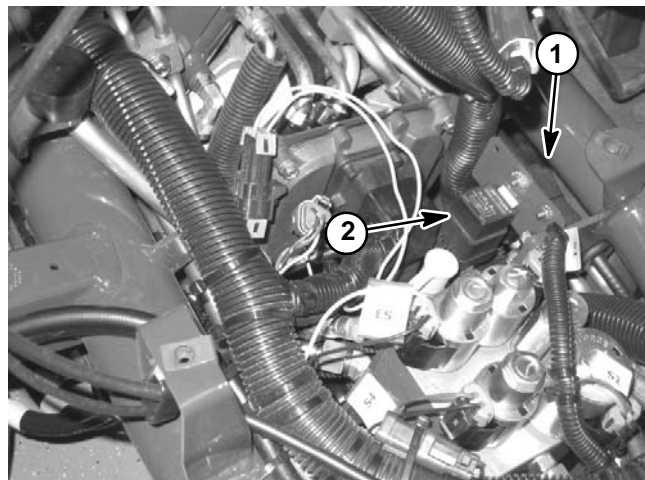

Figure 52
The Greensmaster TriFlex electrical system includes several identical, four (4) terminal relays for current control. The relays are located under the right side cover next to the operator seat (Fig. 52). Relays can be identified by a tag near the relay wire harness connector.